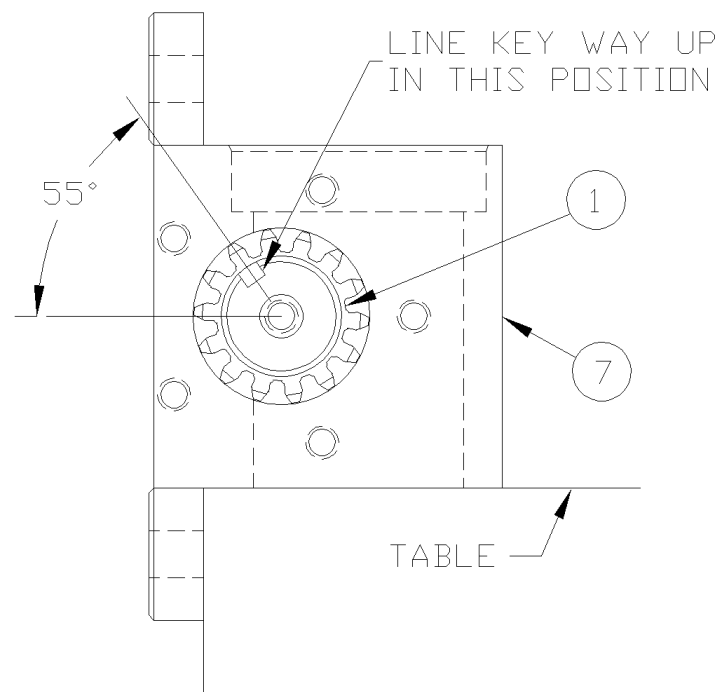

Figure 12.
4. Place the actuator body (7) (Figure 12) on the edge of the table, mounting flanges closest to the assembler with the counter-bores facing up. Insert the pinion shaft (1) through the bore on either side of the actuator body with the key ways facing back toward the mounting flanges and up away from the table with the center line of the key ways pointing in the position as shown in Figure 12. Center the pinion in the actuator body.